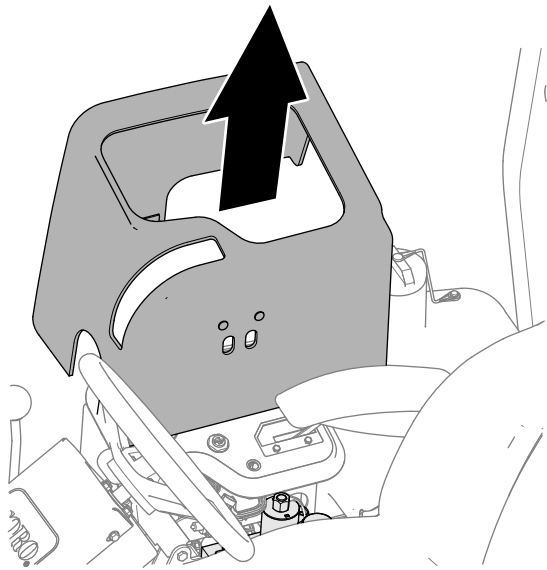

Figure 93
- Lift the magnetically mounted console cover (Figure 93) to expose the mower manifold.